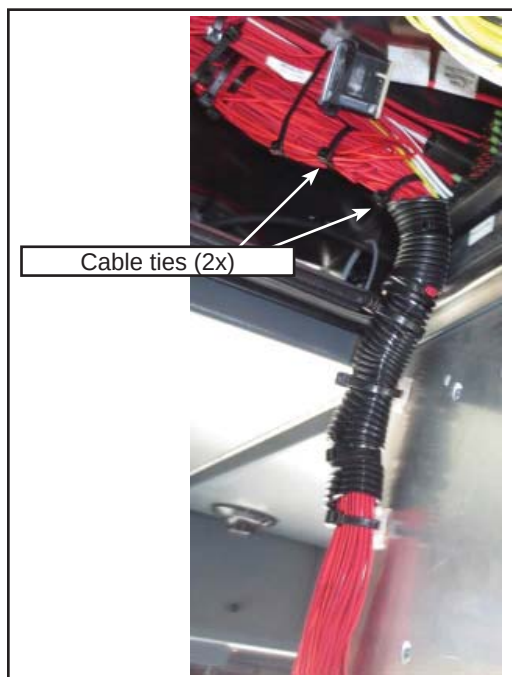

Figure 9 - Two Cable Ties on the WHA #78 Harness
- 1.25. Install two G5007995 cable ties around the WHA #78 harness on the other end of the split convoluted tubing to tighten the wires. See Figure 9.